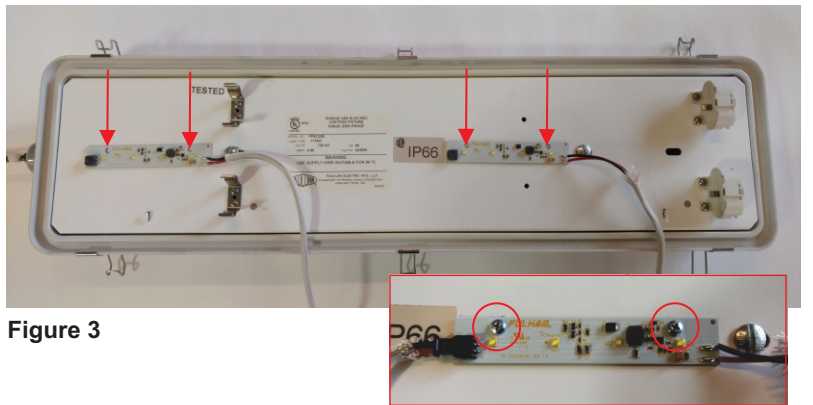

Figure 3
4. Place the LED Modules (B) on the luminaire mounting plate as shown in figure 3.
5. Secure the LED Modules (B) to the luminaire mounting plate using four 6-20 X 3/8" Self Drilling Screws (D). See Figure 3.